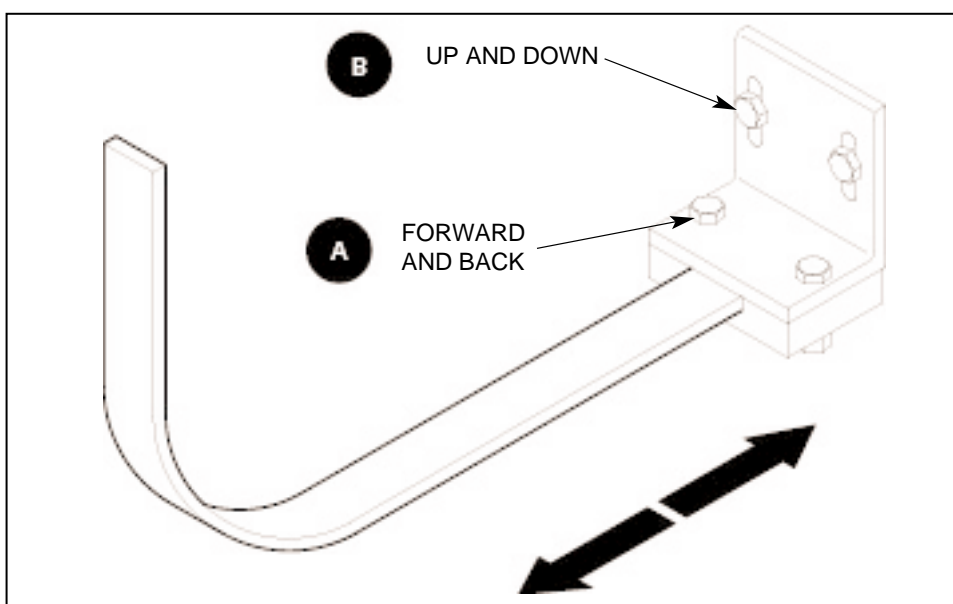

Figure 6.14 ADJUSTING PALLET POSITIONING SPRINGS
- 6.2.12 Adjust spring stops (pallet positioning springs) to be at 1/2 inch from pallet when fully forward on lug chains (see figure 6.14). To adjust, loosen the two bolts (A) on each spring stop and slide them forward or backward. Adjust spring stops height by loosening the two bolts (B).